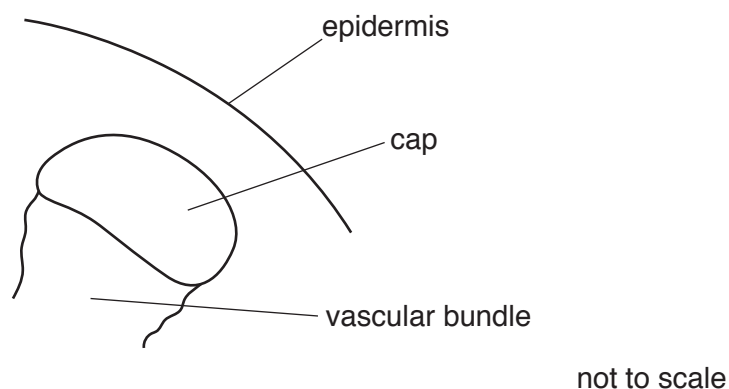

Fig. 2.1
- (ii) Observe the cells in the cap of the vascular bundle on slide **L1** as shown in Fig. 2.1. These cells are not identical.